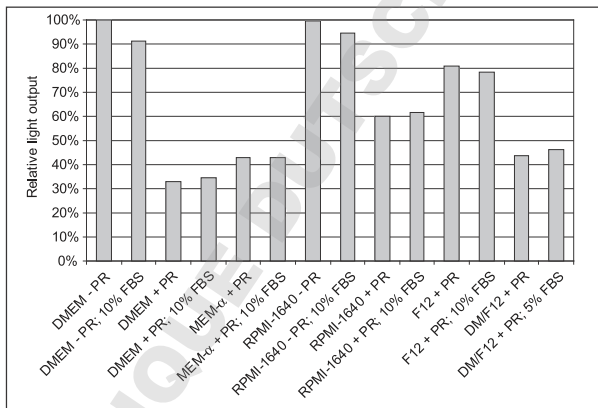
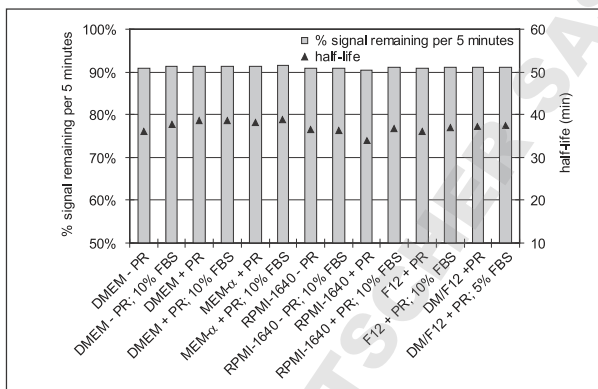

Figure 4: Relative light output in different media
Figure 5: Signal stability in different media expressed as a percentage of signal remaining per 5 minutes and half-life (minutes)
To assess the influence of different culture media on luminescence light output, the following experiment was performed using commercially available basal media in the presence and absence of Fetal Bovine Serum (FBS) and Phenol Red (PR). 100 μL britelite plus was added to 100 μL samples of the different media in a white 96-well OptiPlate, where each sample contained luciferase at a concentration of 5×10^{-10} gram per mL. After shaking the plate, the light output was measured using a TopCount NXT. Figure 4 illustrates the results of the relative luminescence after 5 minutes count delay. Figure 5 shows the results of the stability of the signal as a function of the culture media used.
The results from Figure 4 show that the light output is to some extent affected by FBS but that Phenol Red has a much larger impact on the light output reflecting the concentrations of Phenol Red in the basal media. Consequently the use of Phenol Red in culture media should be avoided to attain the highest signal. The stability of the luminescent signal is only somewhat dependent on the media as shown in Figure 5.
- Phenol Red, as well as other colored compounds, will chemically not interfere with the luciferin/luciferase reaction, but will quench some of the emitted light, resulting in lower assay signals (see Figure 4). For optimal light output, the culture medium can be substituted with **Dulbecco's PBS containing calcium and magnesium** ions prior to the addition of britelite plus.